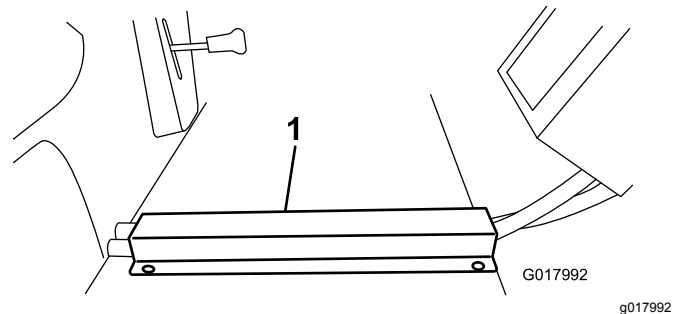

Figure 29
- Place the hose channel over the hoses on the floorboard and line up the forward edge with the front edge of the floorboard. Mark and drill holes in the floorboard and install the self-tapping screws (Figure 29).